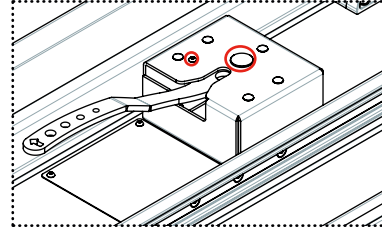

FIGURE 4
- ☐ Check that the lock handle is not loose. If it is loose, the main screw of the rotation axis and the small screw that guides the lever must be tightened (see Fig. 4).